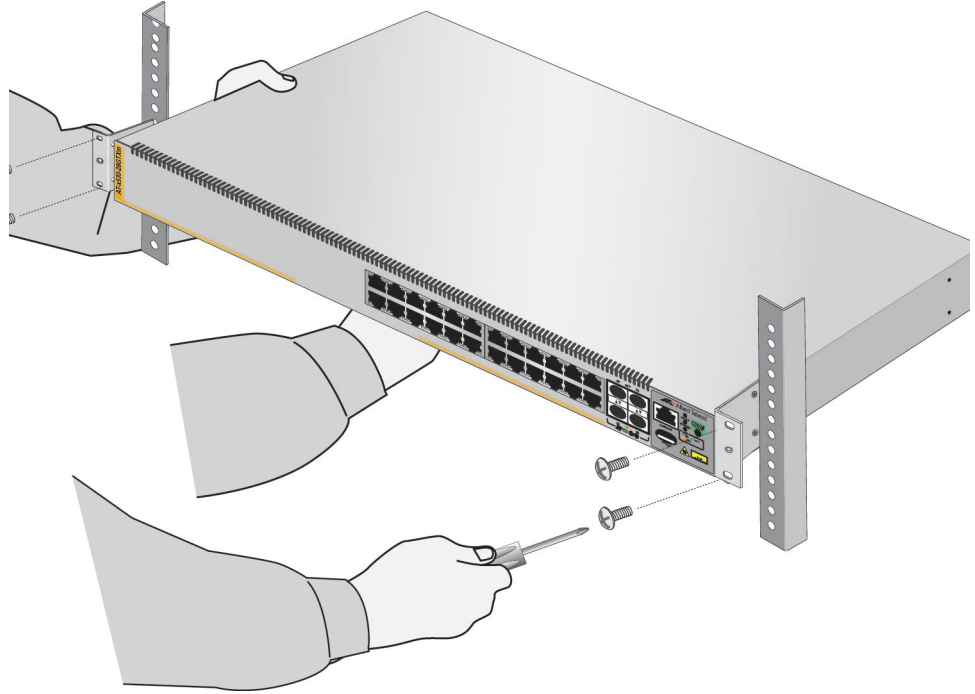

Figure 41. Installing the Switch in an Equipment Rack
3. Have another person hold the switch at the desired location in the equipment rack while you secure it using four standard equipment rack screws (not provided). Refer to Figure 41.